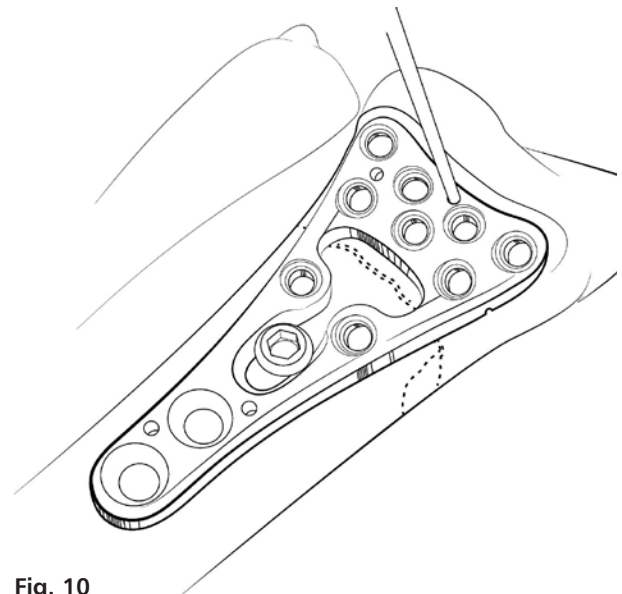

Fig. 10
12. Next, while reduction is held, insert a 1.4mm K-wire (DH0460CE) in the designated K-wire hole shown. This K-wire hold mimics the same trajectory as the screw hole on its right. (Fig. 10). Doing so allows the distal screw position to be confirmed before committing to permanent placement, as the K-wire mimics the angle of the first screw. This K-wire should be 1-2mm subchondral to the joint line.